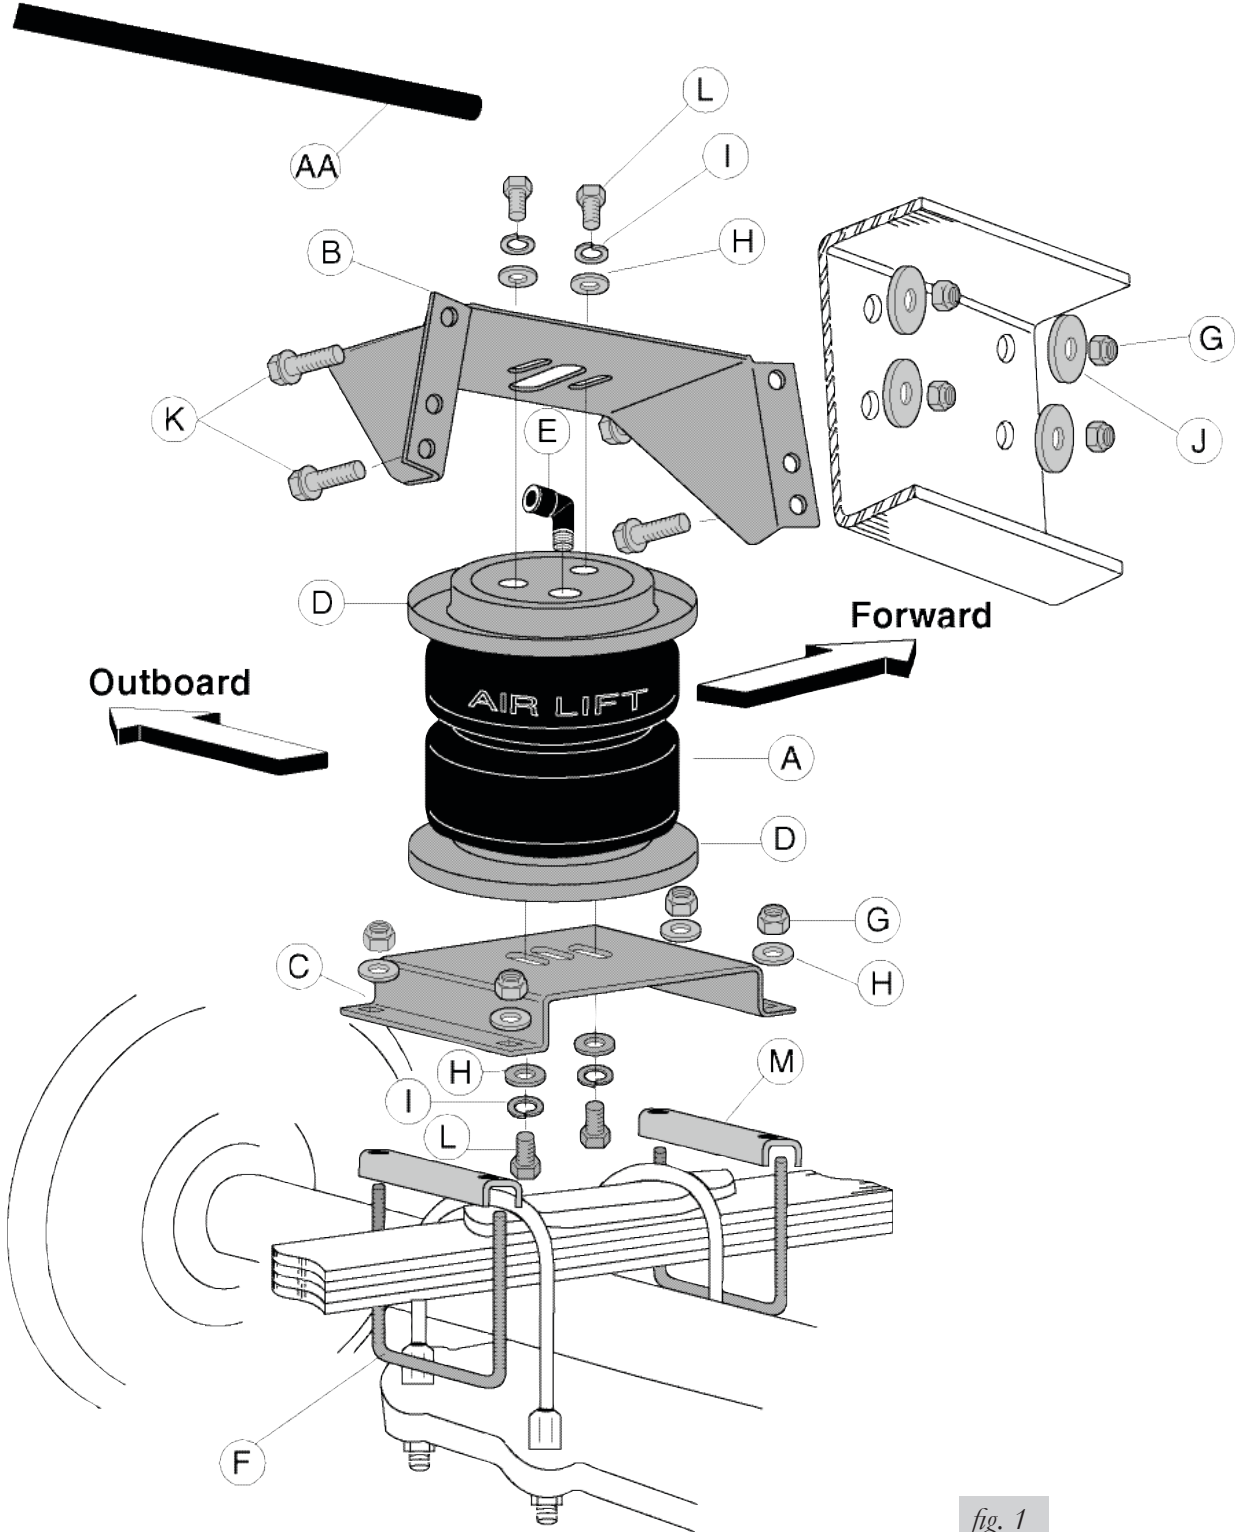

fig. 1
1. Set a roll plate (D) on both ends of the air spring (A). The radiused (rounded) edge of the roll plate will be towards the air spring so that the air spring is seated in both roll plates (Figure 1).
2. Install a 90° swivel air fitting (E) finger tight plus 1 1/2 “ turns (Figure 1). Do not overtighten.
3. Place the upper bracket (B) onto the top of the bellow and roll plate with the legs facing down.
4. Set the air spring on the lower bracket (C) aligning the two holes in the base of the air spring with the two outer slots in the top of the lower bracket (Figure 1).
5. Loosely attach the upper bracket to the assembly using flat washers (H), lock washers (I), and hex head bolts (L). Remember that the legs face down (Figure 1).
6. Loosely attach the lower bracket to the assembly using flat washers (H), lock washers (I), and hex head bolts (L). See Figure 1.
1. Set the assembly over the center spring retainer. Install two spacers (M) between the lower bracket and the spring (Figure 1).
2. Using the upper bracket as a template, center punch and drill one $\frac{3}{8}$ " locator hole through the frame (Figure 1).